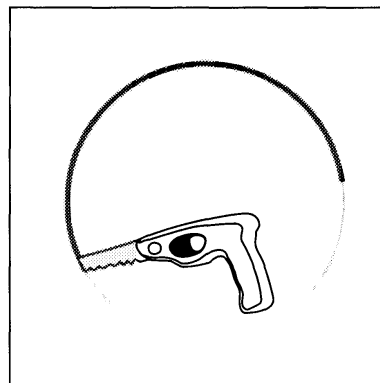

FIGURE 7
4. Carefully cut the hole with the appropriate cutting tool for your wall or ceiling material. Start the hole by drilling a hole on the inside of the tracing (with the drill bit touching the line). Use this hole to insert the saw or knife and begin cutting. [Figure 7]